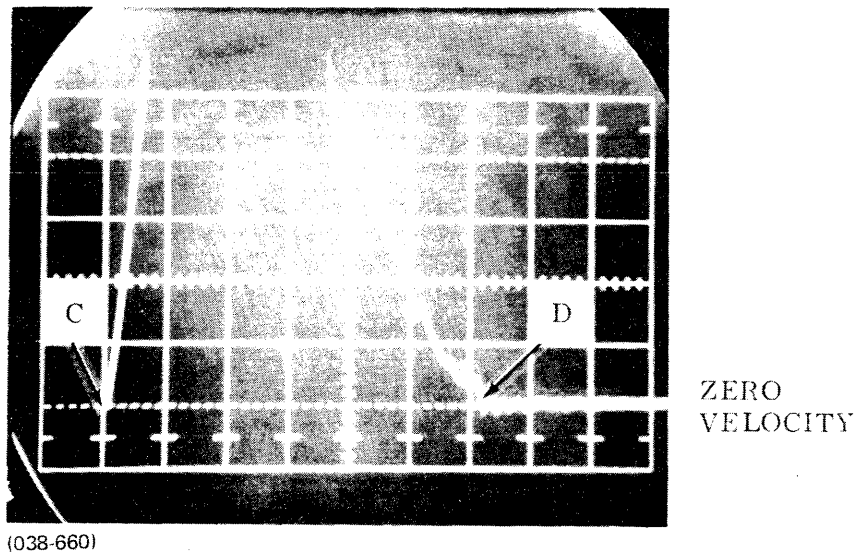

Figure 4-8. 200 Cylinder Seeks (Forward)
- D. Initiate 200 cylinder seeks from cylinder 000 to cylinder 200 and back. This is the alternate cycle mode when the off-line tester is used. The resulting scope trace should resemble the one shown in Figure 4-8.